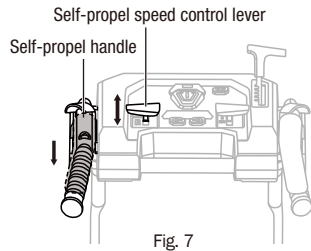

Fig. 7
1. Without starting the auger rotation, press the self-propel lever down to the handle, and the snow blower begins moving (Fig.7).
4. To engage the reverse self-propel function: First release the self-propel handle to stop the blower from moving, pull the self-propel speed-control lever toward the back of the snow blower, then press and hold the self-propel handle. (Fig. 7)